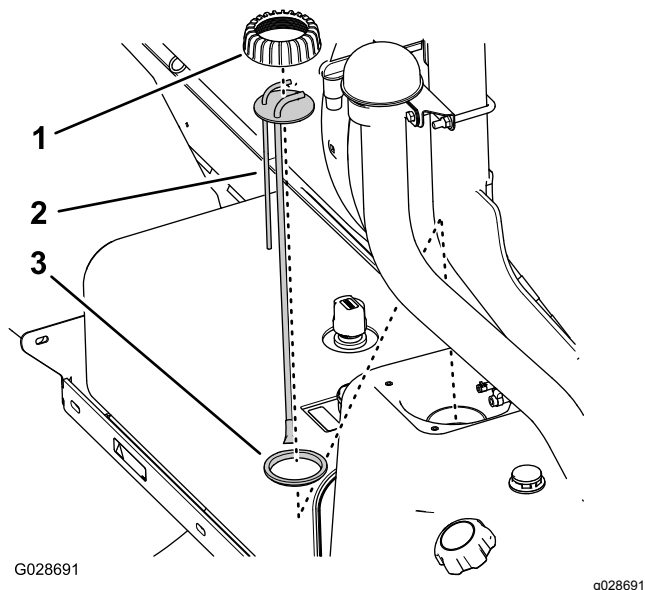

Figure 77
5. Rotate the fuel-standpipe/sender cap counterclockwise, then remove the cap (Figure 77).
6. Lift the fuel-standpipe/sender assembly from the fuel tank (Figure 77).
1. Assemble the standpipe cap over the stand pipe and the standpipe to the seal (Figure 77).
2. Align the cap, standpipe, and seal to the tank, and carefully insert the new stand-pipe assembly into the fuel tank (Figure 77).
3. Thread the cap onto the neck of the fuel tank and tighten the cap hand tight (Figure 77).